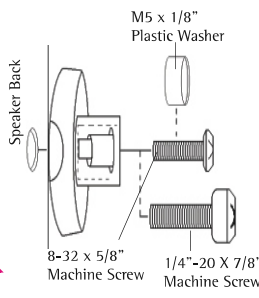

Figure 3
- Check the size of the hole and make sure the 8-32 x 5/8" machine screw, the 1/4"-20 x 7/8", or the M5 x 20mm fits inside (Figure 3).